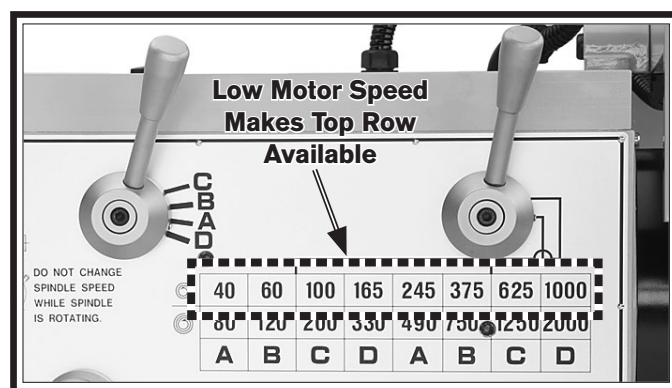

Figure 74. A low motor speed makes the spindle speeds in the top row of the chart available.
2. Turn the motor switch to the LOW (left) position. This will make the speeds in the top row of the spindle speed chart available (see **Figure 74**).